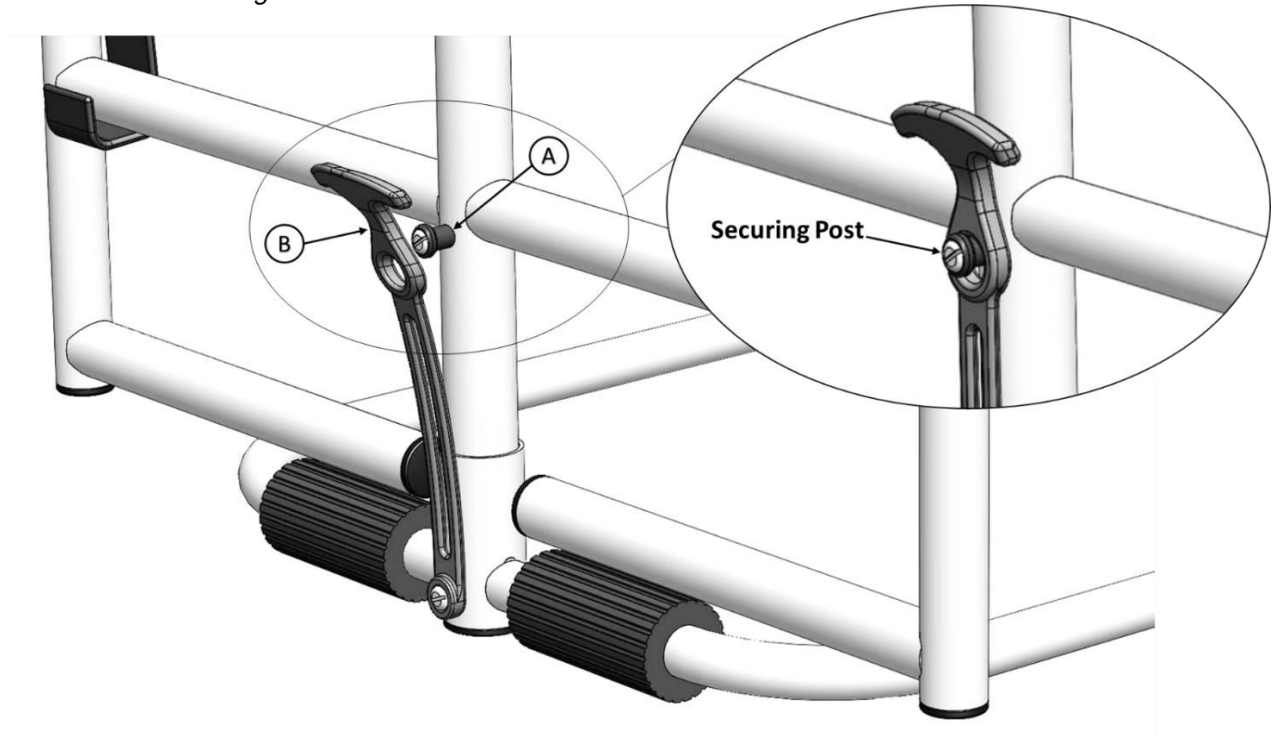

FIGURE 3
3. Place **B** over the *Securing Post* on **A** as shown in *FIGURE 3*.